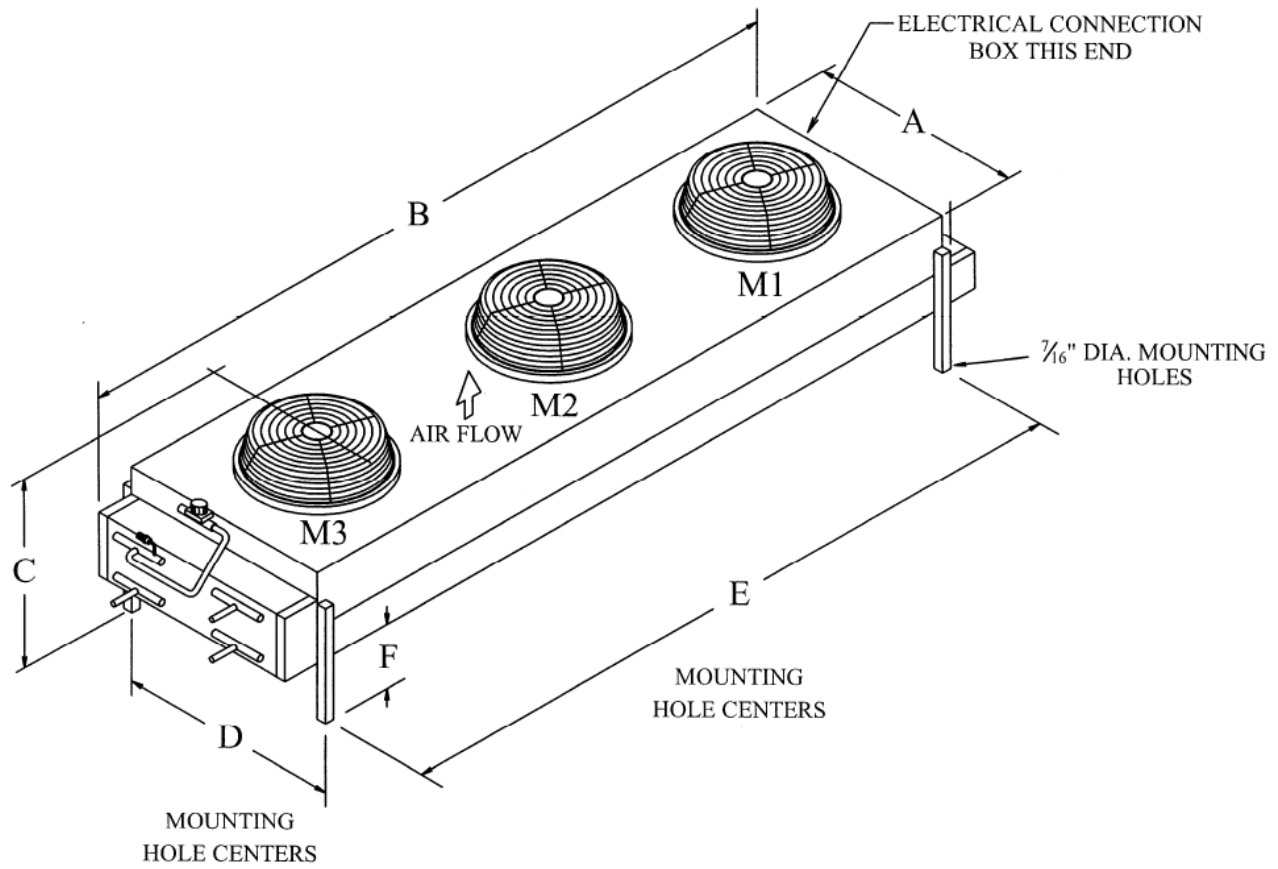

Figure 14: Condenser Dimensions
9. Use only ACR grade copper pipe, Type L. Table 4 has recommended line sizes. Figure 14 shows a typical condenser.